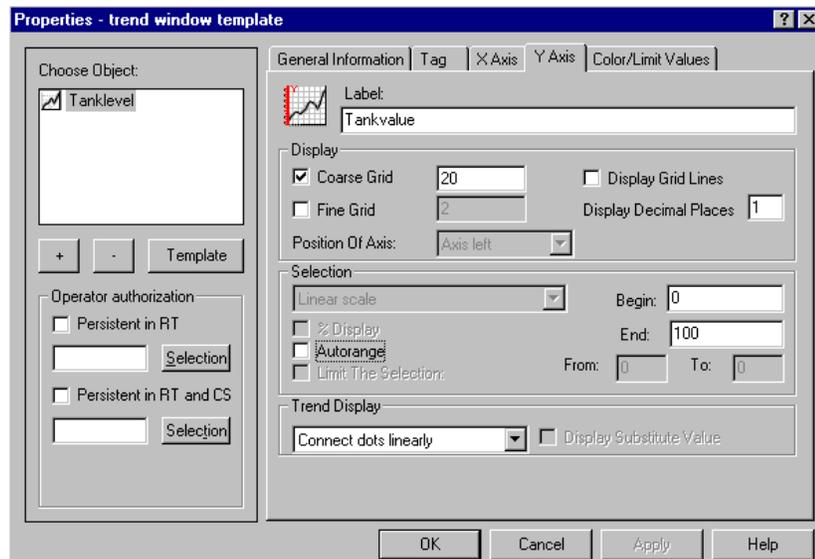

Figure 3.6d WinCC Project "QckStart"; Creating a Trend Window Template
5. Select the **Y Axis** tab. Name the Y axis "Tankvalue". Select coarse grid with a value of 20. Deselect Autorange and enter 0 as your Begin number and 100 as your End number. Select "Connect dots linearly" as the display attribute. See Figure 3.6d.